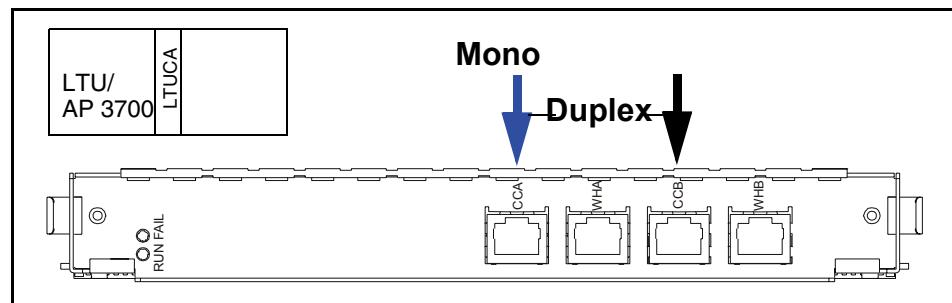

Figure 1 LTUCA board in the LTU/AP 3700 shelf (CCA/CCB)
1. Table 1 contains an overview of the signal cable connections between the LTUCA ports of the LTU/AP3700 expansion cabinets (see Figure 1) and the CSPCI backplane ports on the RTM board (see Figure 2).